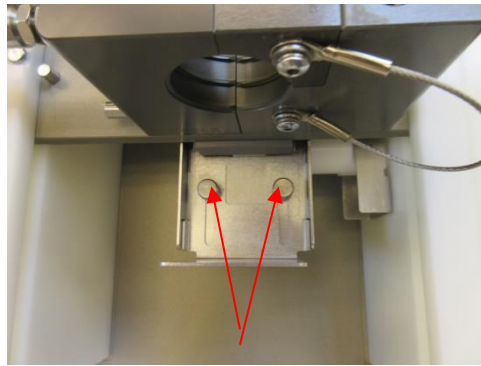

Figure 6
- The stop gate allows for repeatable insertion of the tubing onto the fitting to a desired position on that fitting. (halfway on, fully on up to shoulder, etc.) The stop gate is adjusted via the thumb screws. (Figure 6)